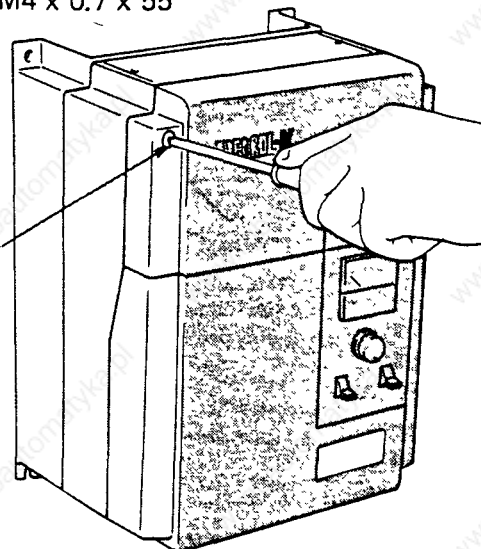

Fig. 6 Installation of Cover with Screws
As standard, the inverter is supplied without cover fixing screws. However, the cover can also be fixed by use of mounting screws. In this case, install the cover, referring to the following working procedure and Fig. 6.
- (1) After removing the front cover, drill holes with a drill, etc. at positions shown in Fig. 6 from the rear surface of cover. The hole diameter should be 4.5 to 5.0 mm.
- (2) After installing the front cover, securely fix the cover by use of the following screws: